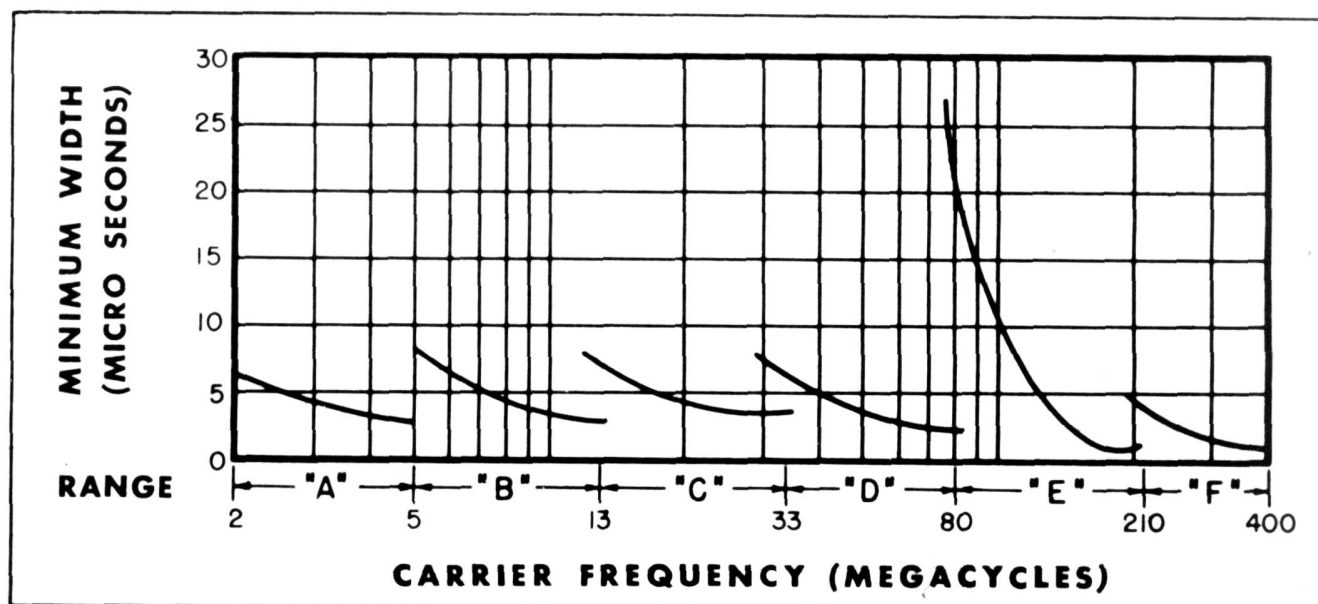

Figure 2-2—Minimum Pulse Width vs. Carrier Frequency
i. To *pulse modulate* the carrier an external pulse generator must be connected to the jack marked "Pulse Input". Turning the "Ext. Pulse" knob *clockwise* to "On" will disconnect the internal modulator to permit direct pulsing of the carrier from an external source. Figure 2-2 shows the minimum pulse width limits for an average Model 80 when connected to the Measurements Corp. Model 79-B Pulse Generator.